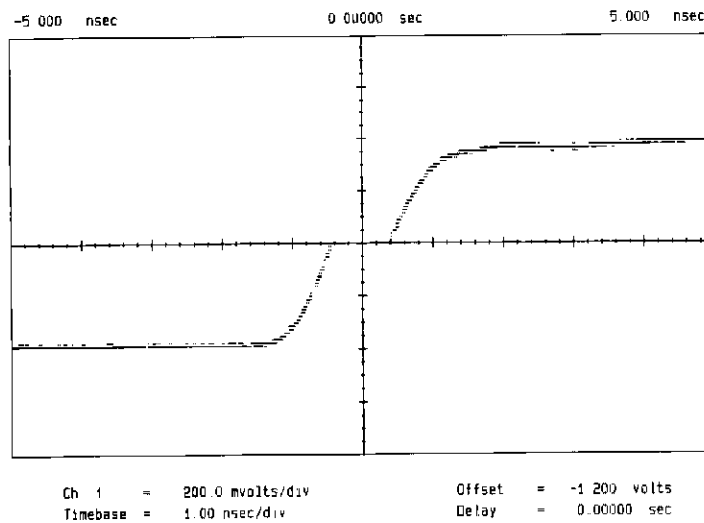

Figure 3-3. Area of discontinuity centered vertically.
5. Slowly change pulse generator period in 100 ps steps until the area of discontinuity is centered vertically on the display. Refer to figure 3-3.
6. Using Timebase Delay function, move the discontinuity until it is centered on middle vertical graticule. The Timebase Delay function is obtained by selecting the Timebase menu, then DELAY function. Refer to figure 3-3.